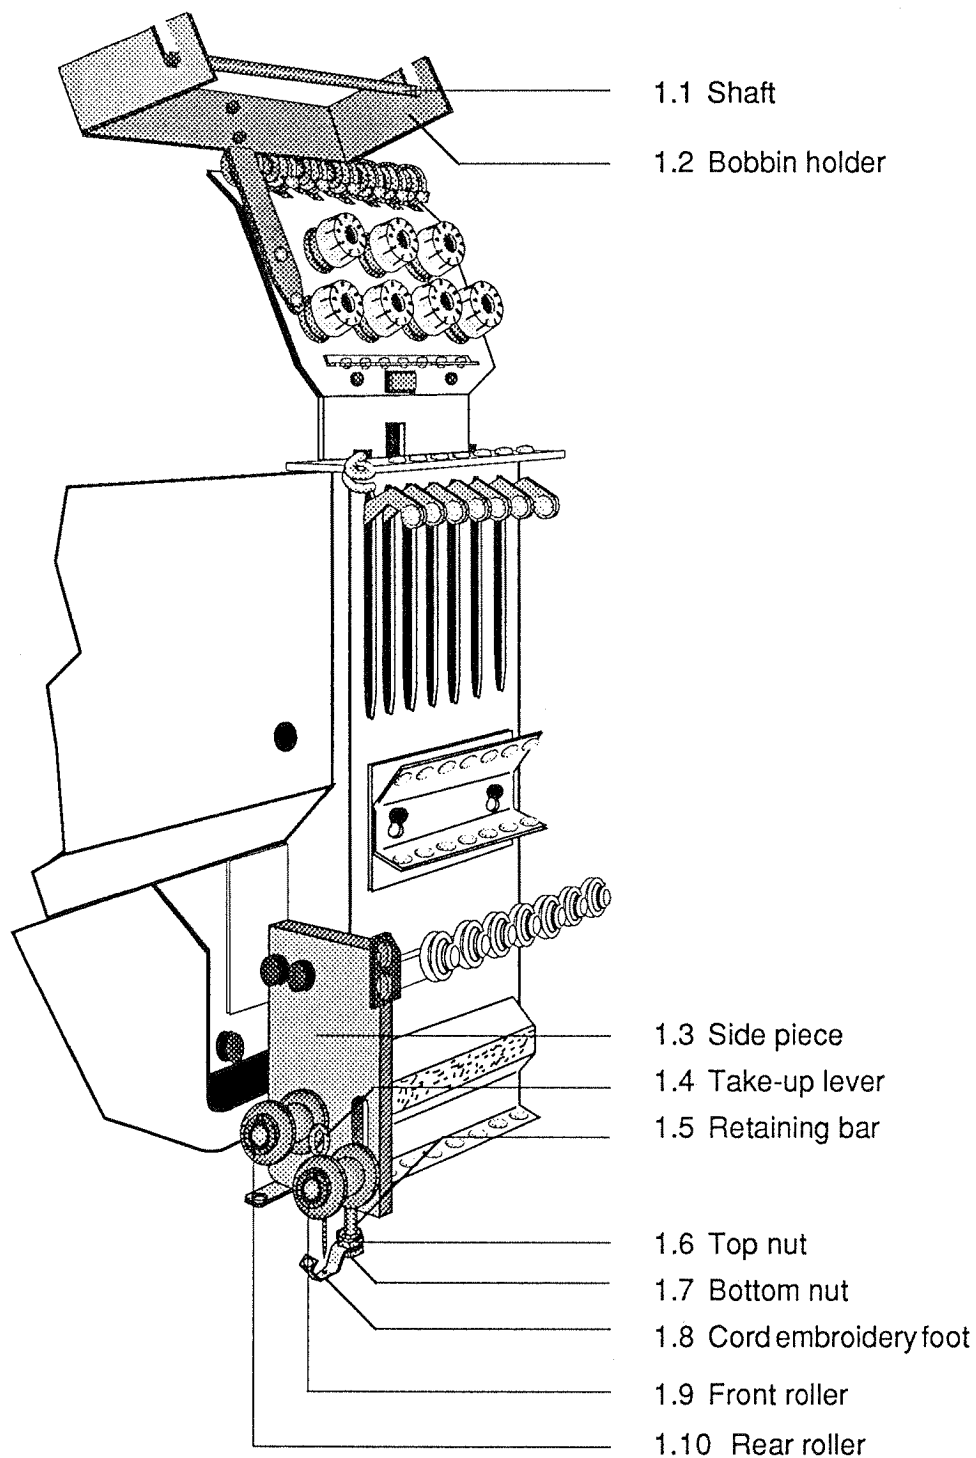

Fig. 1.0
The cord embroidery device is positioned on the left or right side of the embroidery head and, in each case, replaces the two end needles. This manual describes the device as installed on the left side (also see Fig. 1.0). When installed on the right, the components are mounted as a mirror image. Otherwise the two versions are identical.
- Place the cylinder or clamping device with cone on the bobbin holder shaft (8.1) (also see Fig. 1.0).